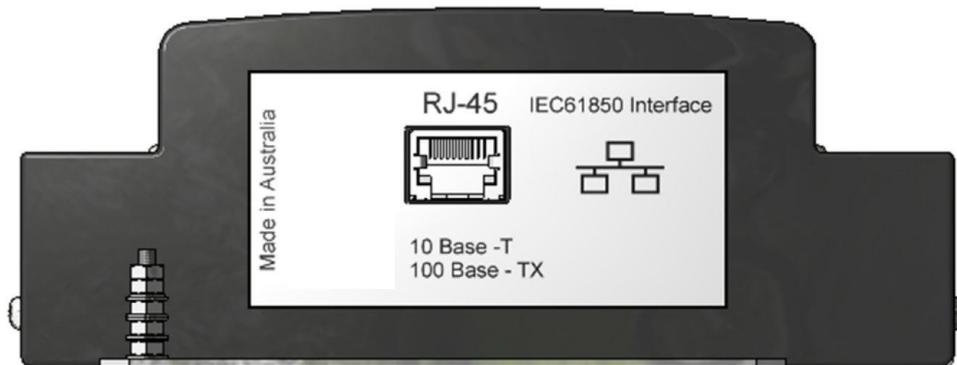

Figure 18: RA24 RJ45 port
- Figure 18: RA24 RJ45 port 15